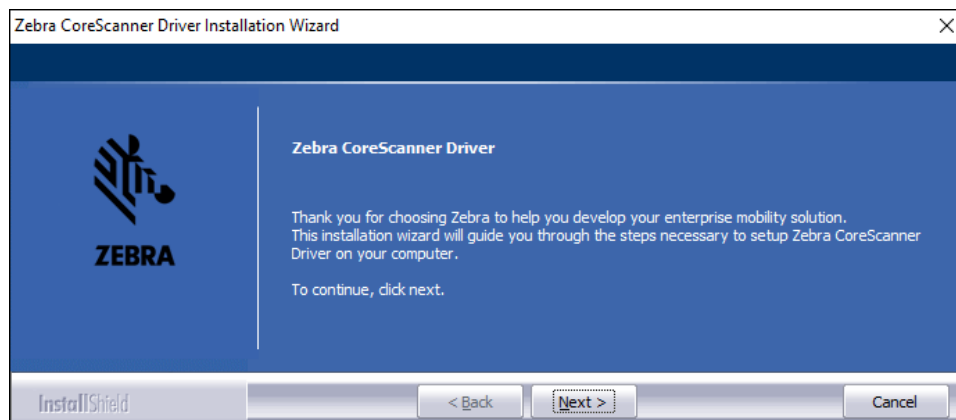

Figure 5-4. Zebra CoreScanner Driver dialog
2. When Zebra CoreScanner Driver dialog appears, click **Next** (Figure 5-4).